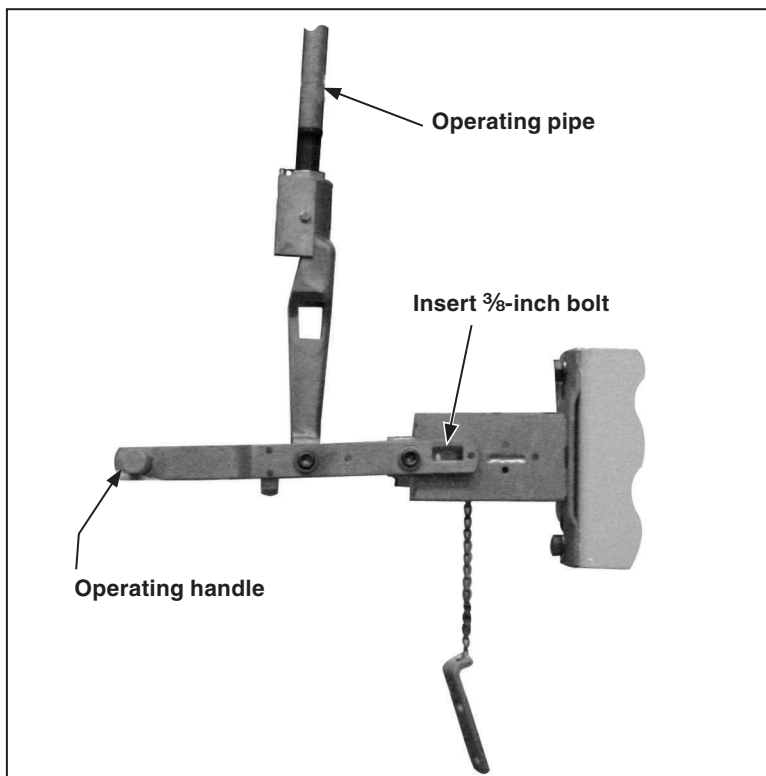

Figure 9. Operating handle in mid-position.
- i. Move the operating handle to its mid-position to take the strain off the operating-pipe linkage. Secure the handle in that position by inserting a  $\frac{3}{8}$ -inch bolt or metal pin into the hole provided. See Figure 9 on page 17.